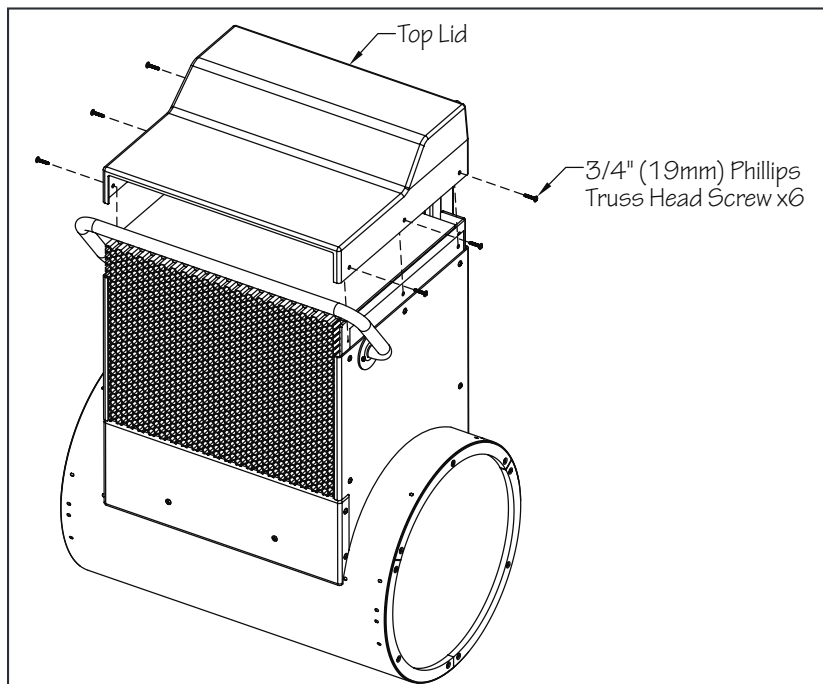
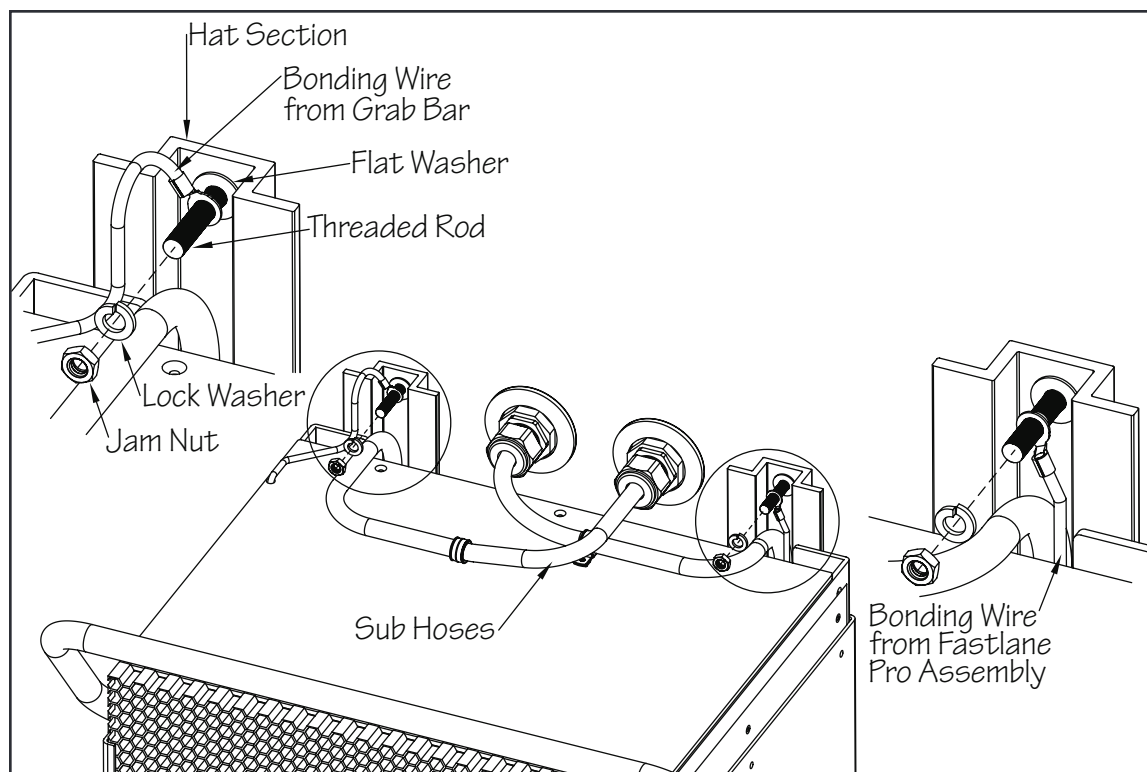
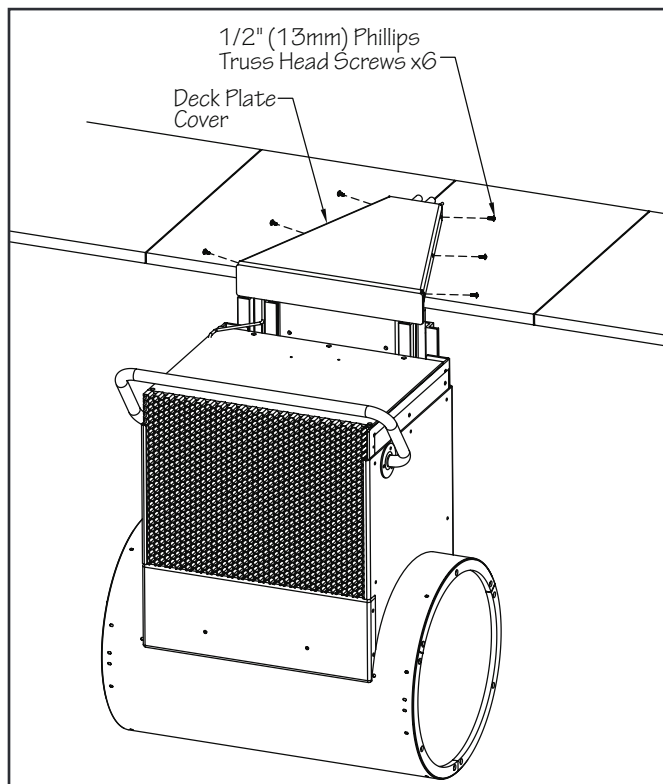

Fig. 6.4
Fig. 7.2
Fig. 9.6
6.5 The top lid will be installed **AFTER** the Fastlane Pro is mounted to the pool wall/pool deck using the provided 3/4" (19mm) screws (Fig. 6.4).
7.2 With a minimum of two people, carefully lower the Fastlane Pro into the pool. Align the mounting hole at the top of each hat section with the corresponding threaded rod/stud to hang the swim unit. Feed the two hydraulic sub hoses into the liquid tight fittings and into the conduit behind the pool wall. Once routed through the conduit, tighten the compression glands of the liquid tight fittings (Fig. 7.2).
7.3 The next step is bonding the Fastlane Pro. On the left side of the swim unit, attach the bonding wire from the grab bar to the threaded rod/stud. On the right side of the unit, attach the bonding wire, pre-attached to the swim unit, to the threaded rod/stud. **IT IS CRITICAL THAT THE BONDING WIRES ARE ATTACHED PROPERLY.** Once bonding wires are secured, use the provided lock washers and jam nuts to secure the Fastlane Pro to the pool wall (Fig. 7.2). Once the unit is fully mounted, the top lid can be attached to the housing (see Fig. 6.4).
9.6 Attach the deck plate cover to the deck plate bottom using the provided 1/2" (13mm) screws. Adjustments may need to be made to the bonding wires in order to seat the cover (Fig. 9.6). Once the unit is fully mounted, the top lid can be attached to the housing (see Fig. 6.4).